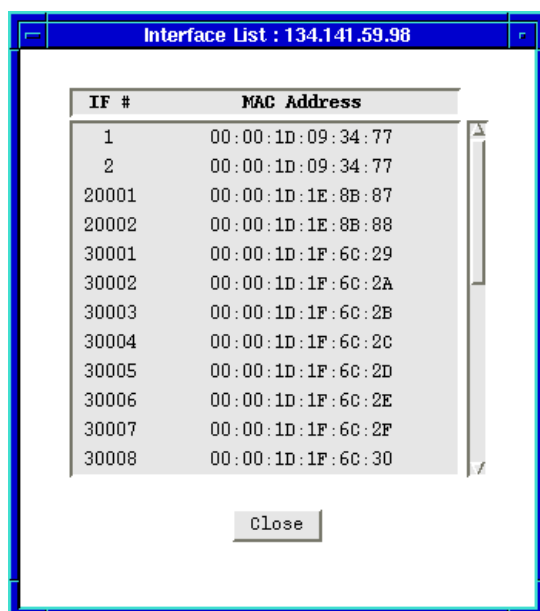

Figure 2-12. Interface List Window
2. Click either mouse button on the Display Mode box in the Hub View to launch the Interface menu; drag down to **Interface List**, and release. The Interface List window, Figure 2-12, will appear.